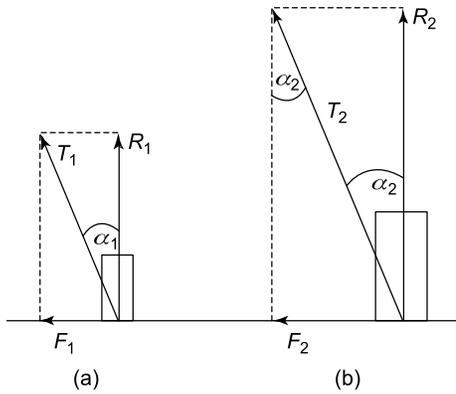

Figure 17.3
i.e. $T_1 = R_1 \times \sqrt{1 + \mu^2}$ (see Figure 17.3(a))
From Figure 17.3(b), $T_2 = \sqrt{F_2^2 + R_2^2}$